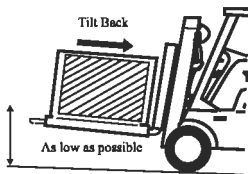

Figure 12. Proper Forklift Load Movement
- Carry loads low, with forks just off the ground and tilted back (see Figure 12).